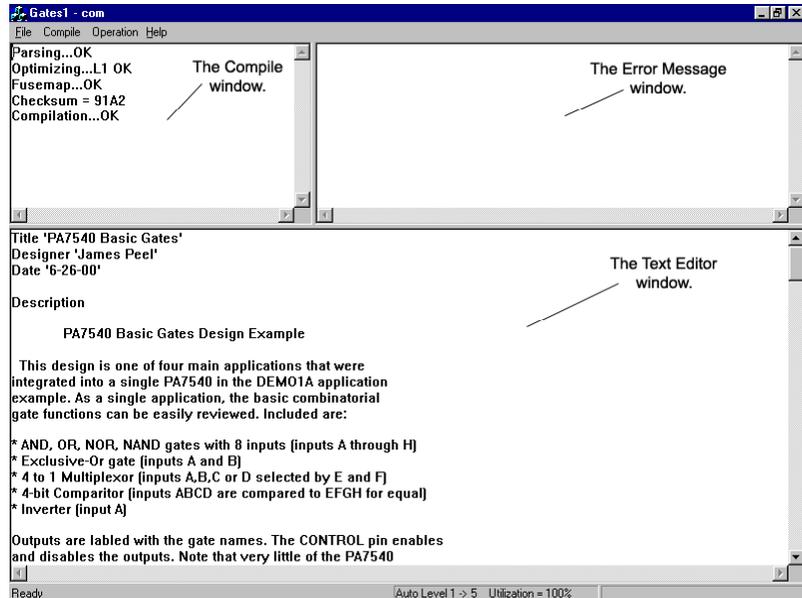

Figure 3-30 Compile Operation screen
There are three windows in the main screen of the Compile Operation (Figure 3-30). Each of these windows provides a specific function for the compilation of WinPLACE™ Source Files (PSF).
**Optimizing** - Implements logic transformation (converting complex equations into sum-of-product form) and reduction to the parsed PSF file, and outputs the results to a file with extension ".RED". The RED file is in the PSF format; hence it can be read into the Design Operation for analysis of the reduced equations. After optimization is completed, the reduction level implemented is displayed. For instance in Figure 3-30, the "L1" term in "Optimizing ...L1 OK" indicates that the reduction level L1 was used for the GATES1.PSF design, and the optimization process was successful (as indicated by the "OK").